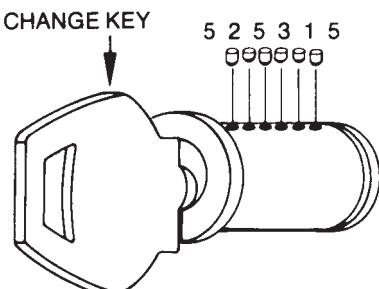

Figure 9.20 Pin length corresponds to the change-key combination. (Emhart Corp.)
7. Write down the new combination. As an example, suppose the original change-key bitting is 513525 and we wish to reverse it to 525315 (Fig. 9.20).